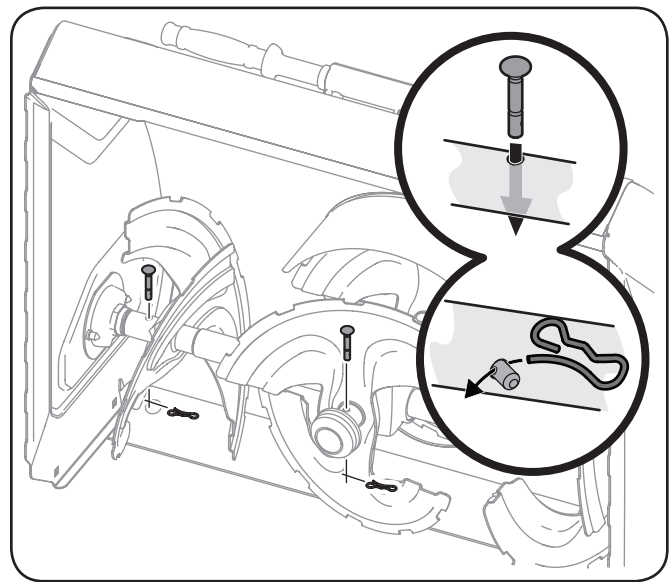

Figure 6-2
At least once a season, remove the shear pins from the auger shafts. Spray lubricant inside the shafts and around the spacers and the flange bearings/bushings found at either end of the shafts. See Figure 6-2.
4. Apply a light coating of engine oil (or 3-in-1 oil) to the hex shaft. See Figure 6-2.